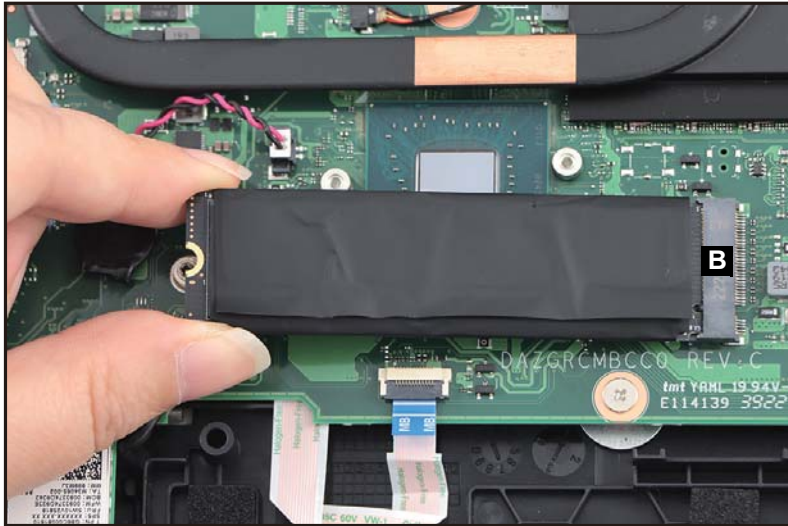

Figure 1-11. SSD Module Removal
3. Disconnect the SSD module from the mainboard connector (B) (Figure 1-11). Then remove the SSD module.